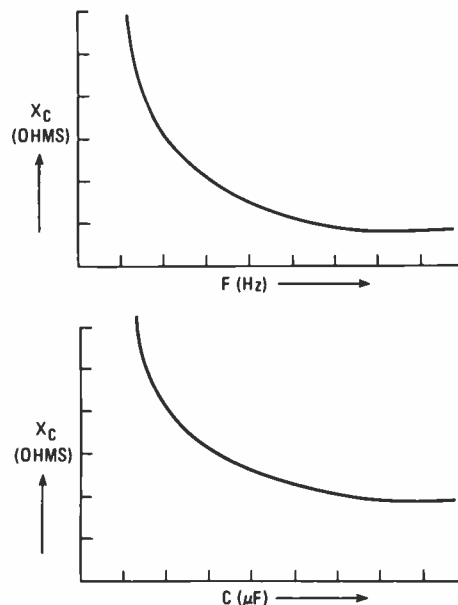

Fig. 16—Capacitive reactance (X_C) decreases with frequency and capacity. The higher the frequency and the higher the capacity the lower the reactance.
47. (opposition, ohms) Two factors affect how much opposition a capacitor offers to AC, capacitance and frequency. As either the capacitance (C) or frequency (f) is increased, X_C decreases. If either f or C decreases, X_C _____.
48. (increases) Figure 16 shows how X_C varies with changes in f or C .